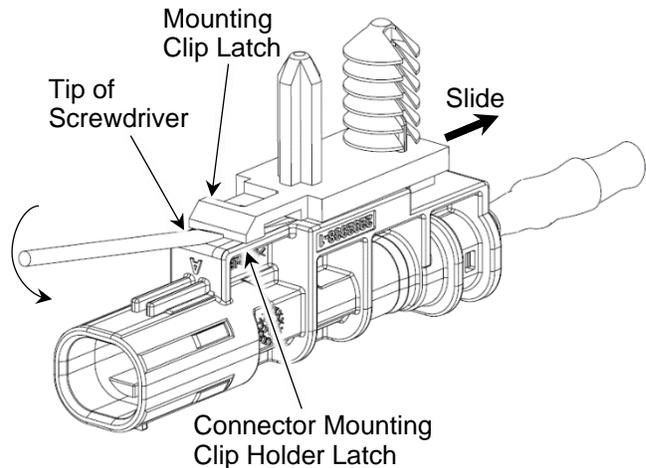

Figure 5
1. Insert the tip of a small screwdriver between the latch of the mounting clip and the latch of the connector mounting clip holder. See Figure 5.